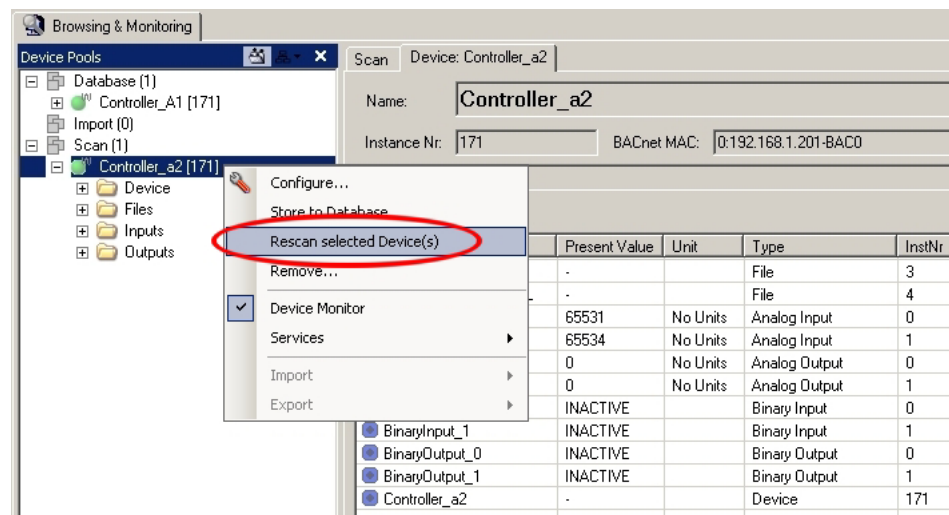

Fig. 4-23: Updating the device via "Rescan device"
30. Click on **Rescan Device** in the context menu of the configured device (Scan pool) to read in only this device again (see Fig. 4-23).